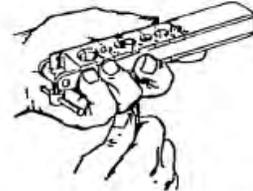

Fig. 1
4. Loosen clamping screw, which is used to lock the sliding segments in the die holder. This will permit their separation. (See Fig. 1)